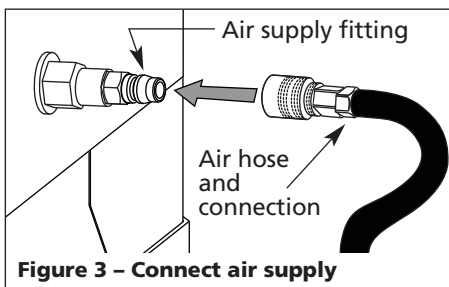

Figure 3 - Connect air supply
2. Connect air supply (max. 125 psi) to the fitting on the side of the cabinet (see Figure 3).